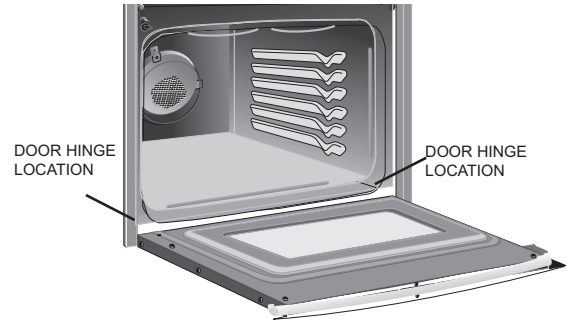

Figure 10: Door hinge location
3. Fully open the oven door, horizontal with floor (Figure 10).